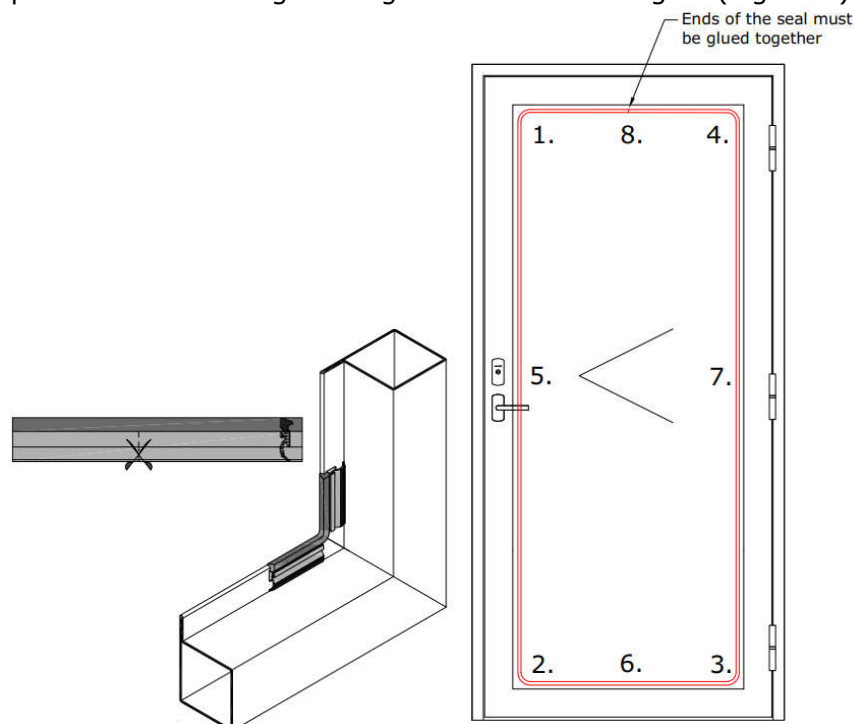

Figure 9 Outer glazing seal installation
- 3.1. Glue the outer seal onto the frame (if the seals have different thicknesses, then the thinner one must be placed on to the frame). Cut the seal for the corners. First install the seal to the frame corners and then the middle parts. The seal end must be finished at the top of the frame and glued together with contact glue (Figure 9).